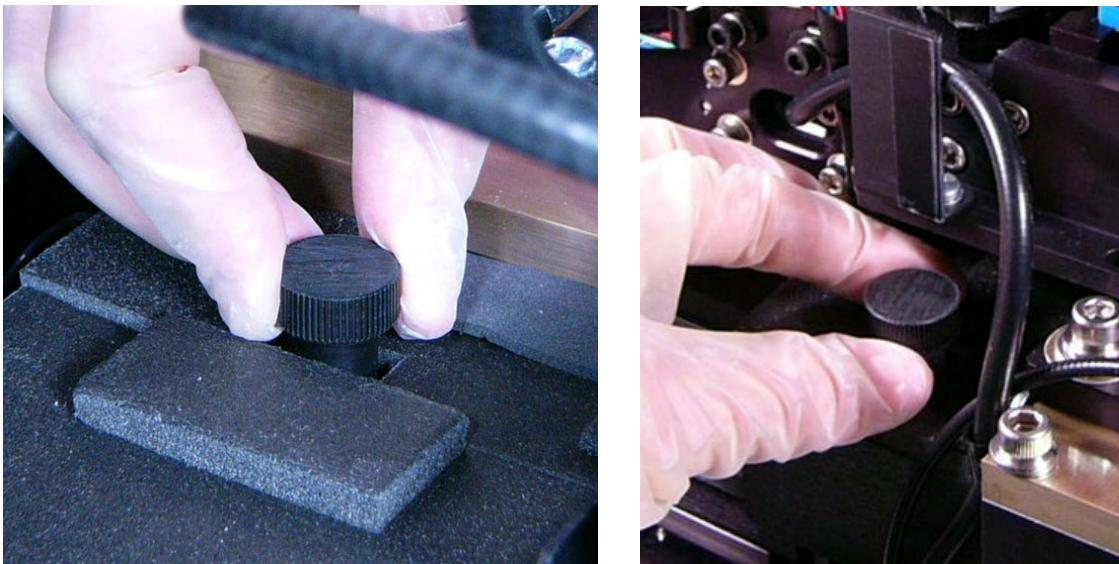

Figure 11: Remove the black knobs (3 total) holding the incubator housing
2. Locate the three black knobs that hold the incubator housing in place. Remove them and set them aside (**Figure 11**).